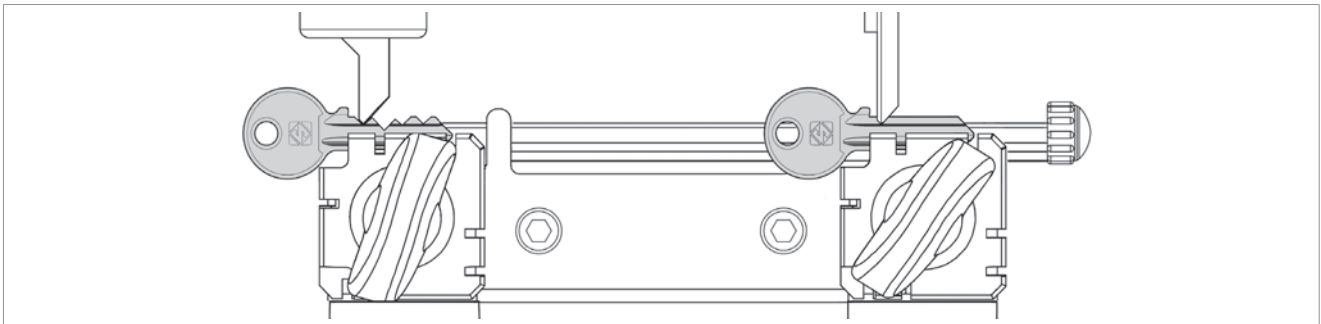

Fig. 24
- 1) Unlock the carriage with the lever (B) to activate the motor and move the carriage towards tracer/cutting tool.
- 2) Keep the tracer on the cuts starting from the head stop (Fig. 24).
- 3) To copy the key move the carriage sideways from right to left by means of the lever (D). In case of double cuts repeat the operation in the second side of the key.
- 6) Turn on the motor with push-button (N) and smooth off the key edges by means of the brush (P).